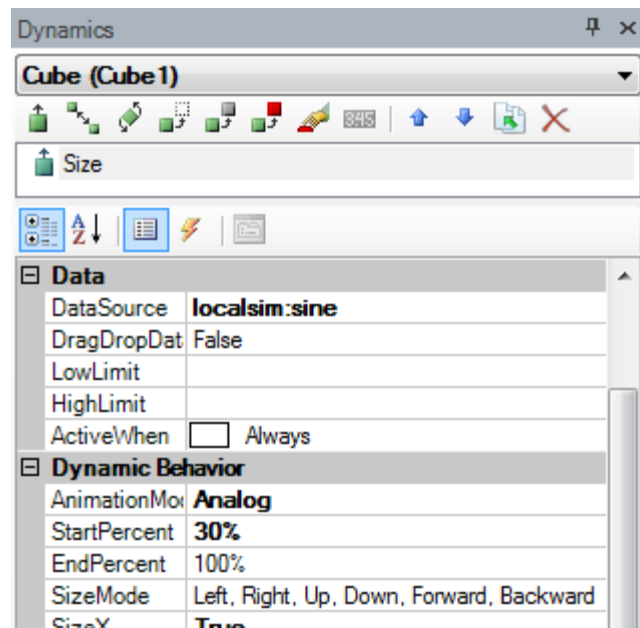

Figure L5.1 - Dynamics Properties for the Size Dynamic
7. Change the StartPercent field to 30%. Your Dynamics Properties should look similar to Figure L5.1 when you are done.